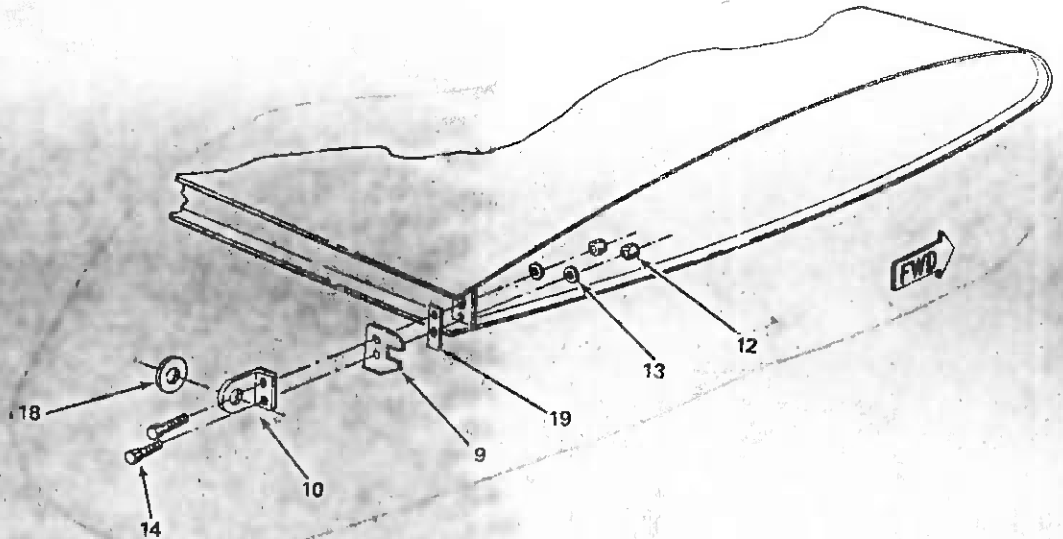

FIGURE 1
The aileron torque tube assembly, Part No. 5202035-505, contains two joints that require inspection (REFER TO FIGURE 1). The torque tube assembly extends inboard from the aileron and may be separated from the aileron by removing attach hardware through access holes in the aileron skin at the inboard end. Ailerons on affected aircraft requiring inspection may be identified by visually inspecting for these access holes. On aircraft on which ailerons do not have these access holes, the aileron torque tube is an integral part of the aileron and thus is not affected by this Service Bulletin.
Referring to Figure 1, the aileron torque tube assembly requiring inspection consists of a tube, Part No. 5202035-11 (11), an inboard sleeve, Part No. 5202035-6 (16), and an outboard sleeve, Part No. 5202035-11 (17). These sleeves (16 and 17) are to be assembled to the tube (11) with bonding agent or rivets and bonding agent. This Service Bulletin is intended to provide the necessary instructions for inspection of the assembly joints to verify that assembly was completed with bonding agent or rivets and bonding agent. If, however, assembly was with rivets only, modification must be accomplished in accordance with the instructions provided in Service Kit SK-144.
A.) Aileron/torque tube removal (REFER TO FIGURE 1)
- (1) Remove wing tip as described in Chapter 57 of AA-5 series Maintenance Manual.
- (2) Remove plugs (1) from inboard end of aileron (2). Remove nut (3), washer (4) and bolt (5).